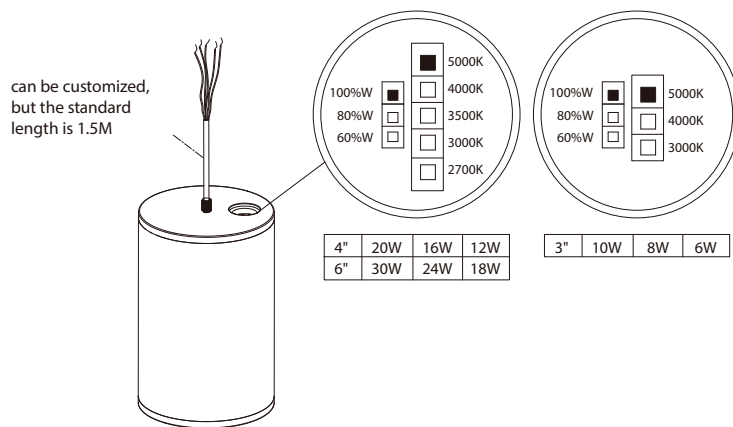

Fig 1
1. Adjust the length of the wire according to the actual needs. Select CCT and power according to the requirements. (Fig 1)